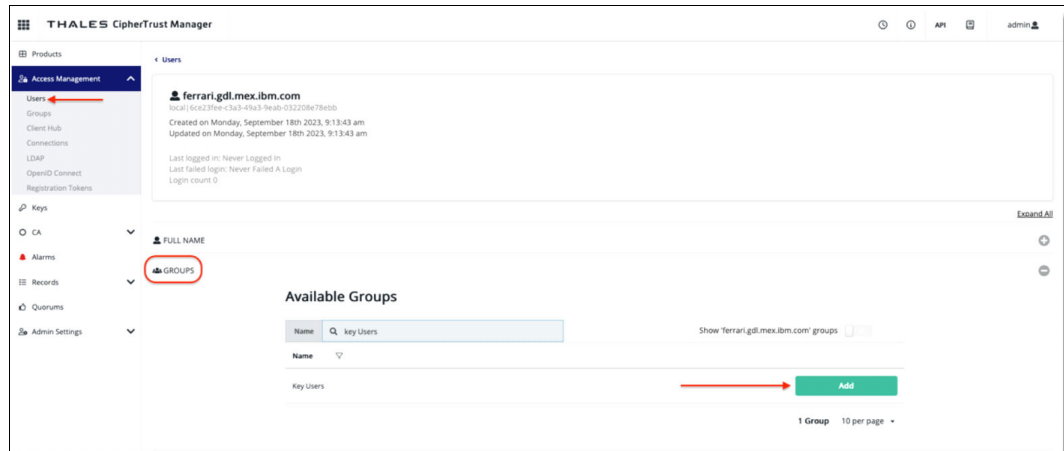

Figure J-33 Adding the key users group
- b. Add the Key Users group shown in Figure J-33 on page 1044.